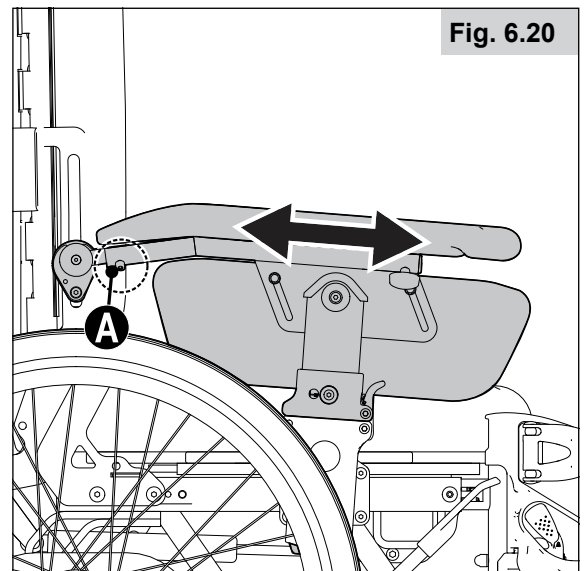

Fig. 6.20
6.19 Adjusting the depth of the armrest (Fig. 6.20)